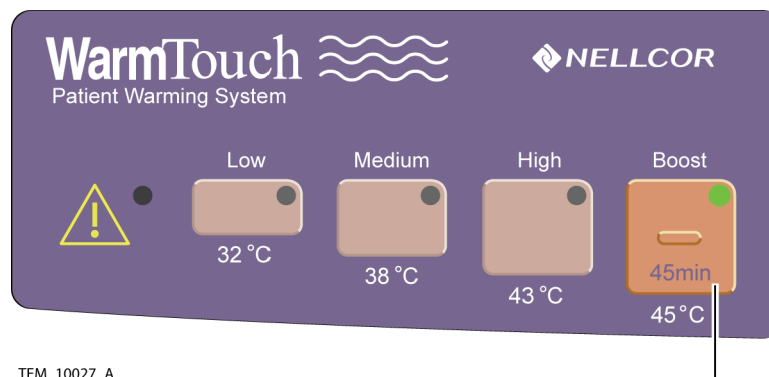

Figure 9. WarmTouch Boost Temperature Setting
11. Select the Boost temperature setting. See Figure 9.